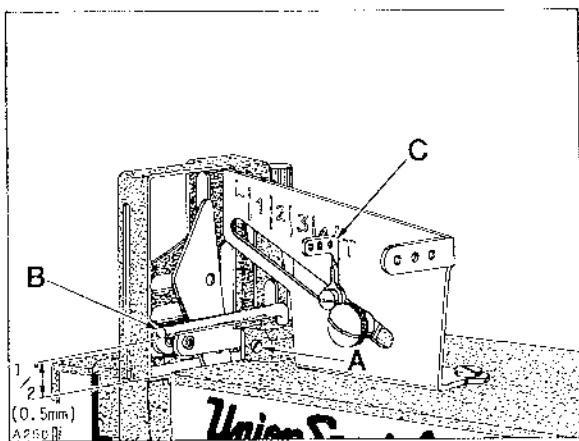

Fig. 29
Adjustments can be made by bringing needle bar up, loosen screw (C) slightly, reposition eyelet (A) up or down as required. TORQUE screw (D) to 10 in-lbs. (11.5 cm/kg). Needle thread cam can be adjusted forward or rearward as required by loosening needle thread cam mounting screw (D) and retighten screw. Loosen screw (A, Fig. 29) and position strike-off wire (B) 1/2 inch (0.5mm) from top surface of top cover to underside of strike-off wire. With needle bar at BOTTOM of stroke and Thread Control Assembly adjustable eyelet (C) set at "T". Apply necessary tension to both needle and looper thread and start to sew. Looper thread tension should be light. Adjust needle thread tension to pull up smallest needle loop as required. At this point a tight stitch will be achieved. Without changing needle thread tension move Thread Control Assembly adjustable eyelet to "L". This will produce a loose seam with longer needle loops.
Needle thread take-up cam wire (C) should be set to barely contact needle threads with needle bar at top of stroke. Adjustment can be made by loosening cam mounting screw (E), reposition cam forward or rearward as required and retighten screw. Auxiliary strike-off (F) should be set so needle threads contact strike-off when needle bar is at BOTTOM of stroke with Thread Control Assembly adjustable eyelet (C, Fig. 29) set at "T". Loosen screw (A) and position strike-off (B) as specified and retighten screw. Thread tension on needle thread should be just enough to pull up uniform stitches. Thread tension applied on looper thread should be just enough to steady thread.